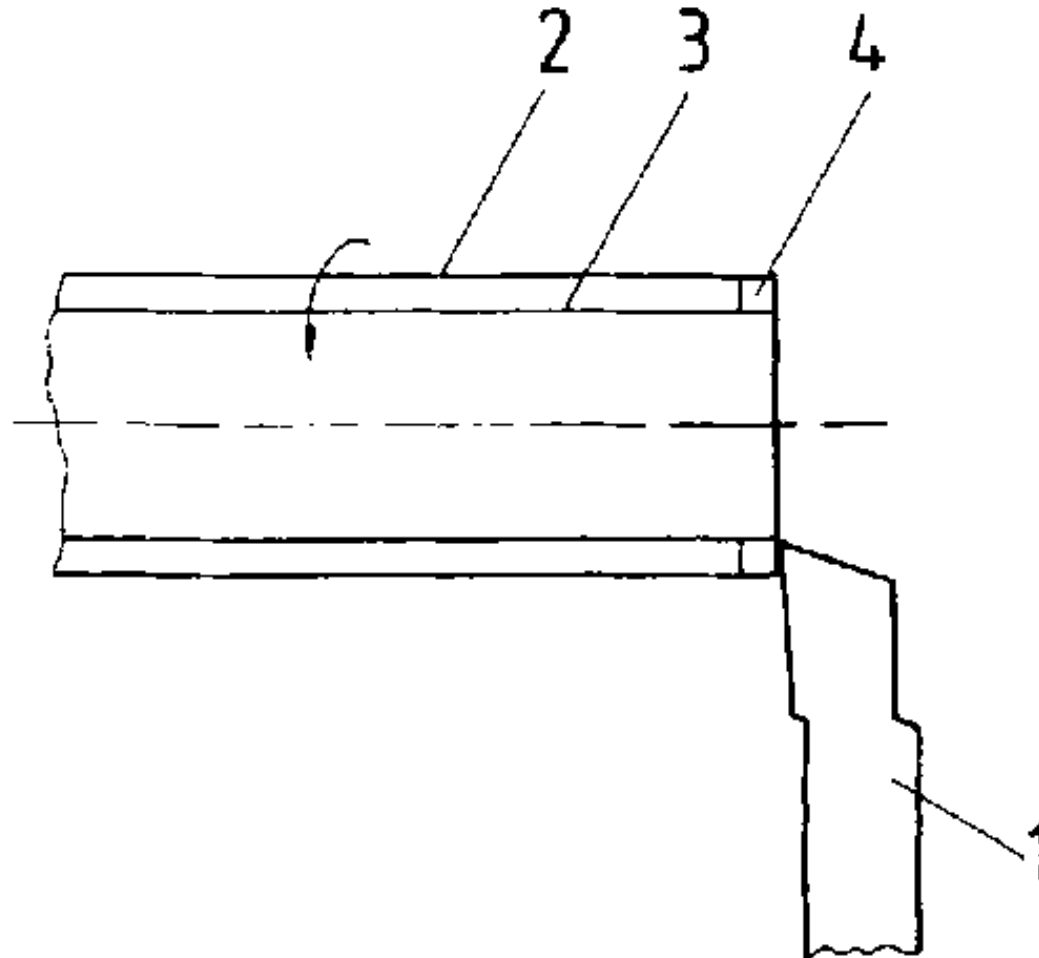

Figure 36. Starting the cut at the workpiece for dimensional inspection
- **Starting the cut with 1-2 mm, then the tool carrier is returned (see fig. 36)**